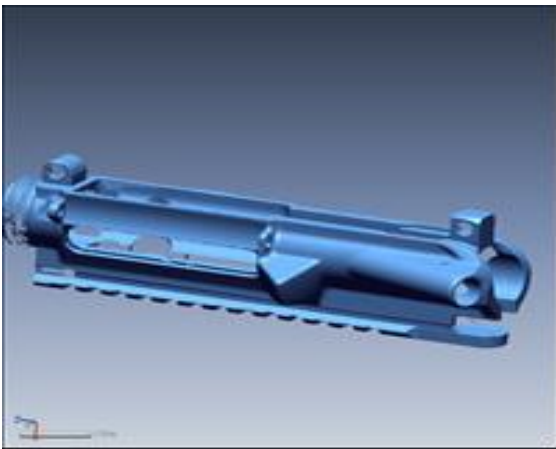

Figure 2 – Laser Scanned Data
- Rapidform to align and merge multiple scans (Figure 2)